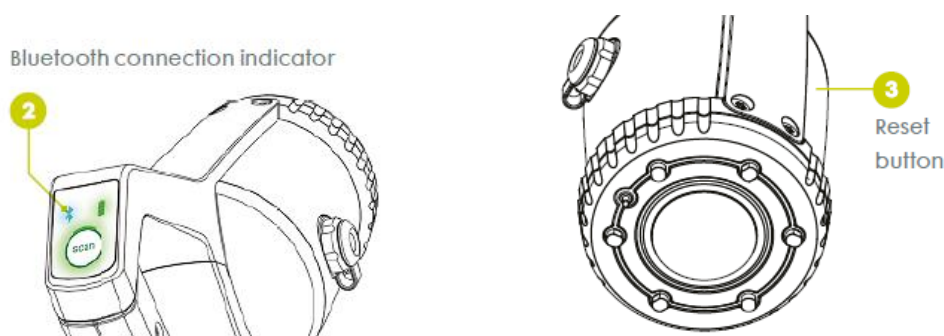

Figure 6
2. Wait until the Bluetooth connection indicator (Figure 6, number 2) blinks.
3. Reset the scanner by pushing the reset button (Figure 6, number 3) on the scanner with the power plug.